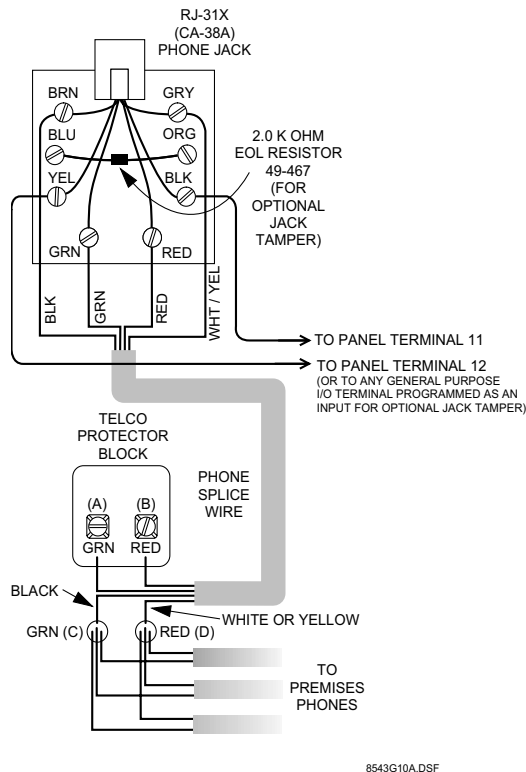

Figure 21. Installing an RJ-31X Phone Jack
1. Run a 4-conductor cable from the TELCO protector block to the jack location (see Figure 21).
4. Connect the green and red wires from the 4-conductor cable to the A (+) and B (-) posts on the block (see Figure 21).
- If desired, add phone jack tamper by splicing the black and yellow phone jack wires to the panel terminals and adding a 2.0K ohm EOL resistor between the blue and orange phone jack terminals as shown in Figure 21.